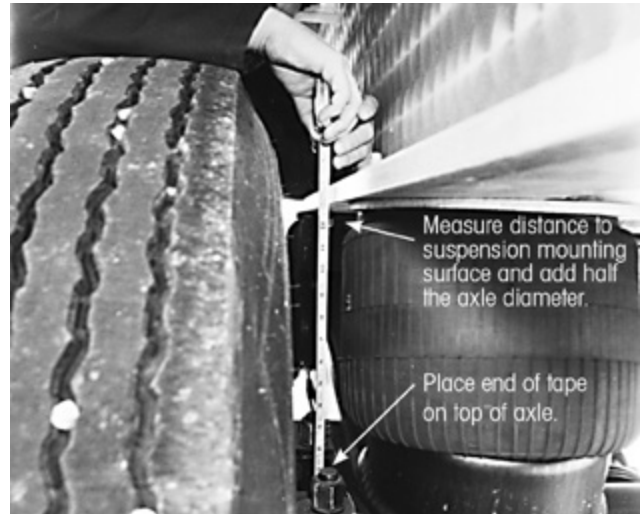

Figure 3: Measuring ride height using tape measure
1. **Measure** the distance from the top of the axle to the mounting surface of the suspension (Figure 3).